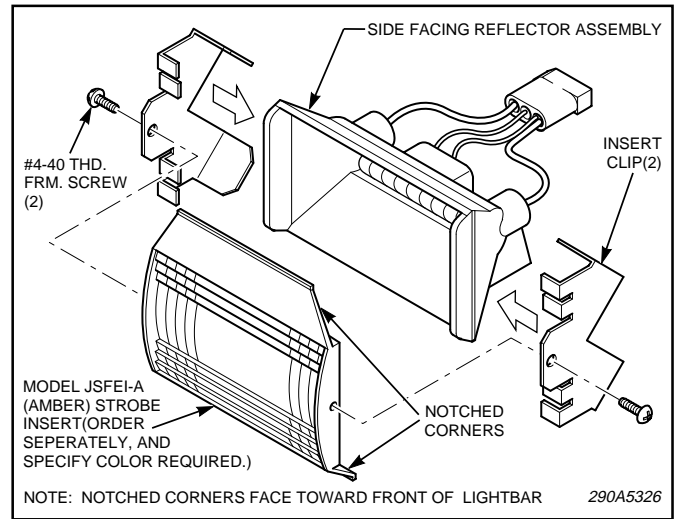

Figure 2.
1. See figure 2. Position two insert clips on the side facing reflector/flash tube assembly and press the clips until they slide into position.
2. Position the separately purchased insert as shown in figure 2. Align the holes in the insert with the holes in the clips and secure with two #4 screws.